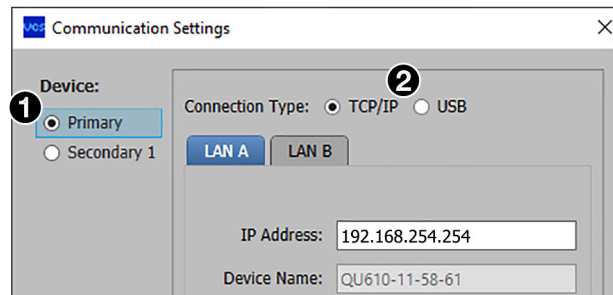

Figure 90. Communication Settings Offline
3. Select the **Primary** or **Secondary** radio button (see figure 90, ❶) for the device for which you are changing the network settings.